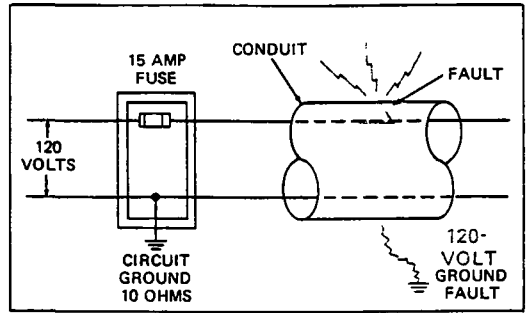

Fig. 7-4. Circuit grounded – conduit not grounded.
7.25 **CIRCUIT GROUNDING** can be more easily understood by looking at low voltage secondary circuits found in most industrial plants. Such a circuit, 120-volts, 15-amperes, with a 10-ohm circuit ground and ungrounded conduit is illustrated by the schematic in Fig. 7-4. When a short circuit occurs because of insulation failure, the ungrounded conduit becomes energized. The conduit now has the same potential (120 volts) as the ungrounded circuit conductor inside it, but no fault current can flow because the conduit is not grounded and the fuse doesn't blow. But anyone touching the conduit and ground will experience a shock which could be fatal.